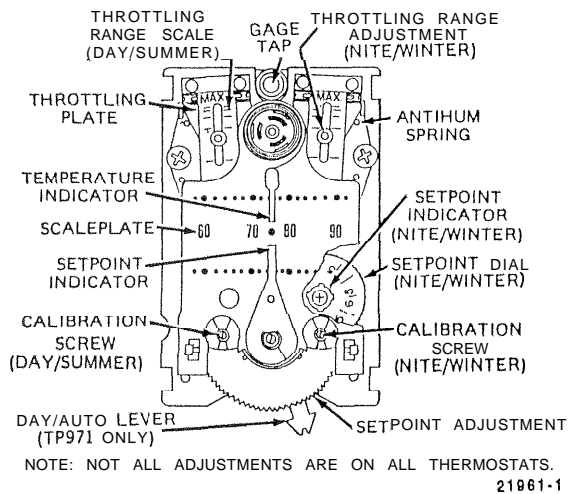

Fig. 11. TP971 and TP972 Controls and Indicators, Front View with Cover Removed.
1. Remove cover and install 0 to 30 psi (0 to 2 10 kPa) gage in gage tap (Fig. 11).
2. Insert gage using gage adapter into branchline pressure gage tap (Fig. 11). If the results in Steps 3 or 5 are not correct, go to CHANGEOVER CALIBRATION.
2. Turn setpoint indicator adjustment (Fig. 11) up slowly,
2. Turn adjustment (Fig. 11) down slowly.
NOTE: Before proceeding with recalibration, be sure the (Fig. 11) just touches the throttling plate and is not wedged against it.
3. With 13 psi (90 kPa) day main air pressure, turn the day (left) calibration screw (Fig. 11) until the gage indicates 0 psi.
3. With 13 psi (90 kPa) summer main air pressure, turn the summer (left) calibration screw (Fig. 11) until the gage indicates 0 psi.
5. With 18 psi (126 kPa) winter main air pressure, repeat Steps 3 and 4, using the winter (right) calibration screw, NOTE: If the thermostat has a setpoint dial (Fig. 11), it must be set to the indicated temperature before returning to Steps 3 and 4.